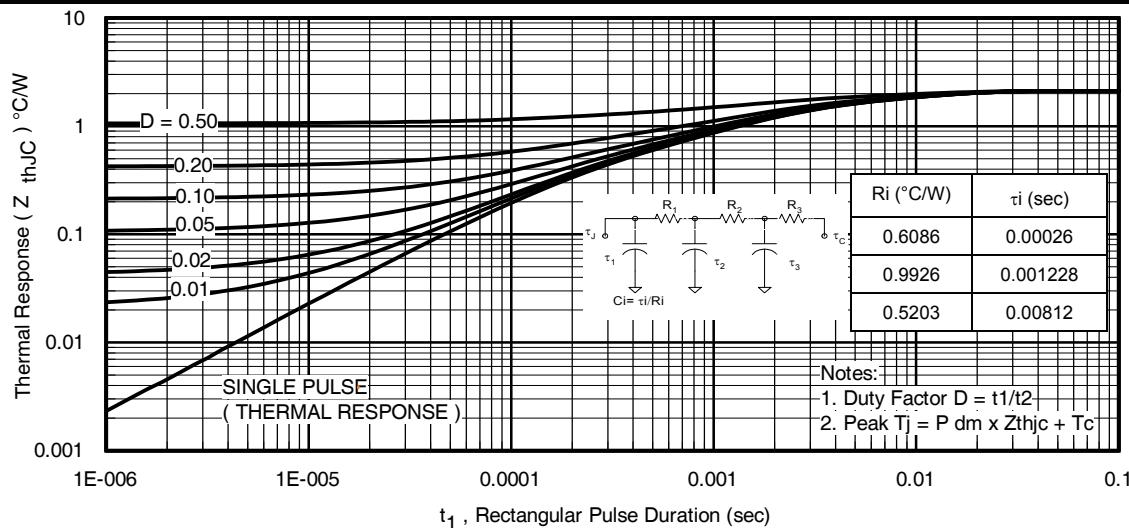

Fig 13. Maximum Effective Transient Thermal Impedance, Junction-to-Case
- ΔT = Allowable rise in junction temperature, not to exceed T_{jmax} (assumed as 25°C in Figure 13, 14).
- $Z_{thJC}(D, tav)$ = Transient thermal resistance, see Figures 13